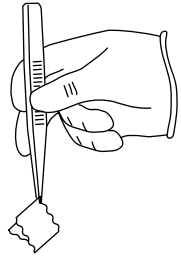

Fig. 3
4. Wear gloves and use tweezers to carefully grasp the corner of the white membrane from between wax paper separators. See **Figure 3**.